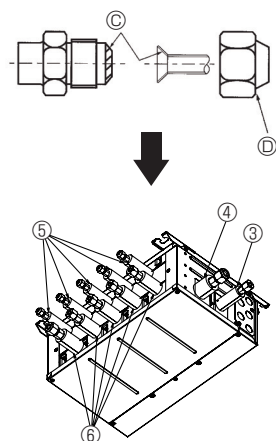

Fig. 7-2
- © Apply refrigeration oil to the entire (Fig. 7-2) surface of the flared seat.